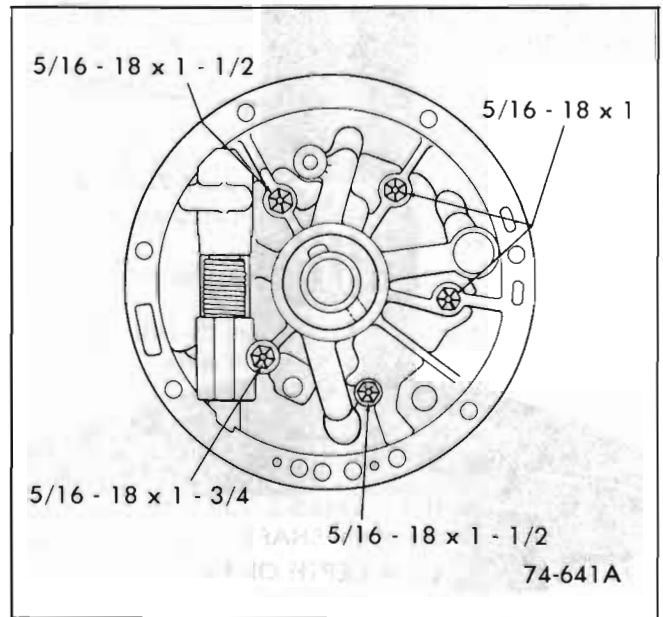

Figure 76-173
10. Install bolts as shown in Figure 76-173.